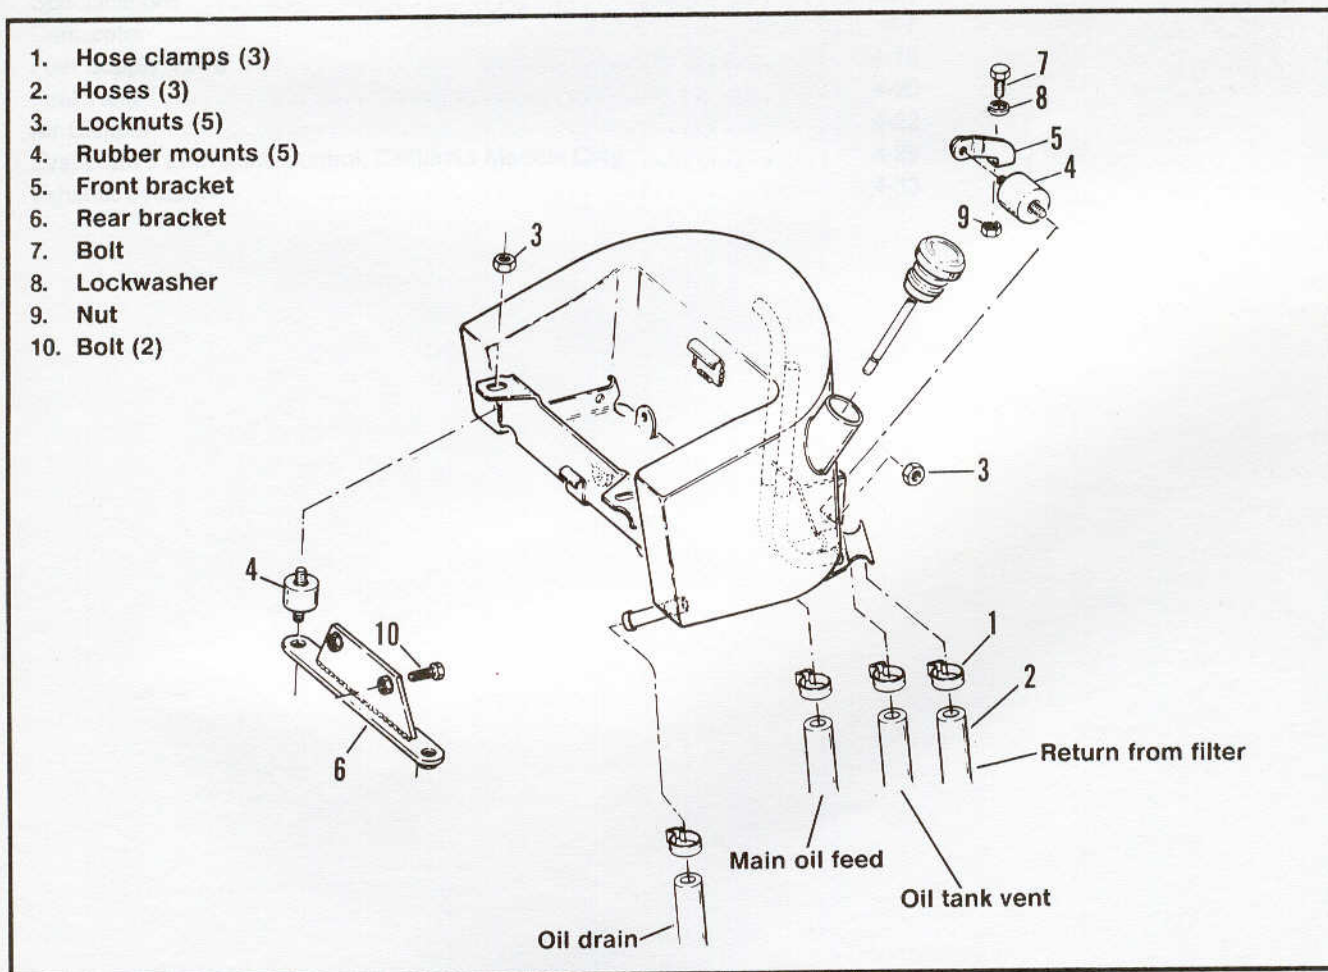

Figure 3-77. Softail Oil Tank
4. See Figure 3-77. Remove hose clamps (1). Slide hoses (2) off oil tank nipples.
5. Remove locknuts (3) from rubber mounts (4).
1. See Figure 3-77. Carefully place oil tank in position on rubber mounts (4).
2. Install locknuts (3).